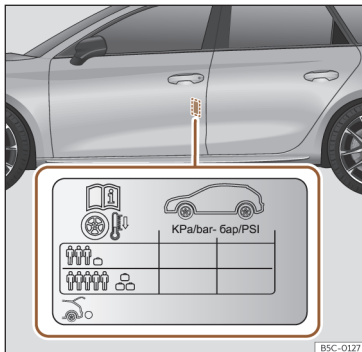

Fig. 229 Location of the tyre pressure sticker.
- Adjust tyre pressure to the load being carried by the vehicle»» **Fig. 229**.
The tyre inflation pressures are listed on a sticker on the rear of the front left door frame»» **Fig. 229**.
The tyre pressure must be adjusted according to the load the vehicle is carrying. If the vehicle is going to carry the maximum load, the tyre pressure should be increased to the maximum value indicated on the sticker »» **Fig. 229**.
In the case of a minimised temporary spare wheel (125/70 R16 or 125/70 R18), inflate to a pressure of 4.2 bar as indicated on the tyre pressure label»» **Fig. 229**.
>>> Fig. 229.
- When the tyres are cold, tyre pressure should be that indicated on the label >>> Fig. 229.